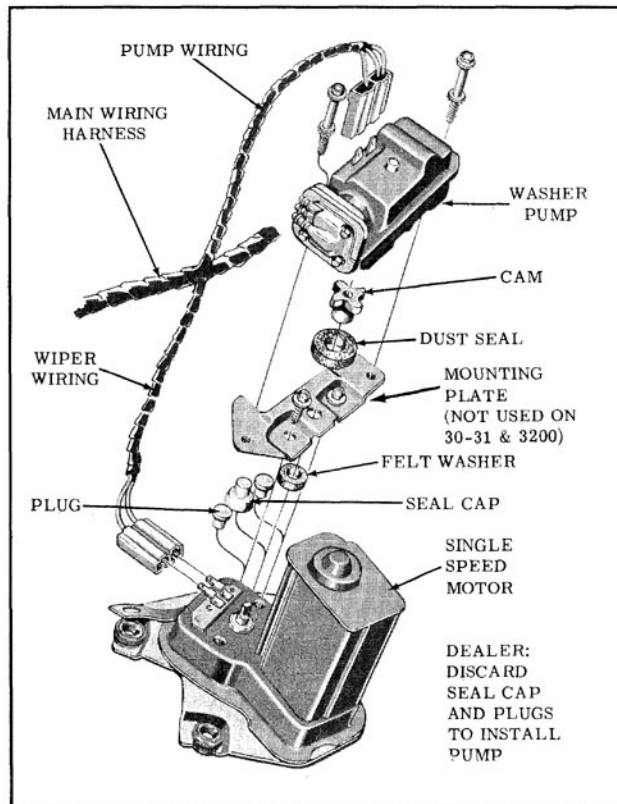

Fig. 13-124 Washer Installation
1. For wipers equipped with a washer pump remove the two washer pump mounting screws (Fig. 13-124) and lift washer pump off wiper.